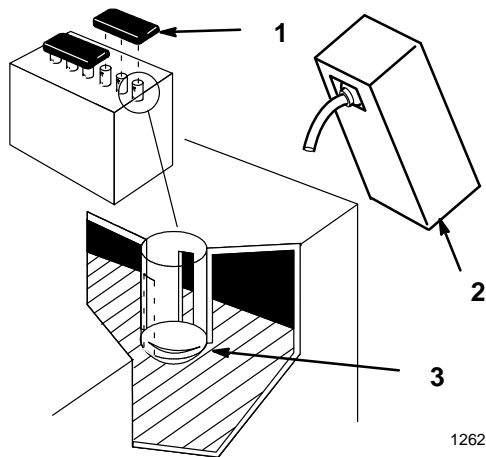

Figure 1
2. Remove filler caps from the battery. Slowly pour electrolyte into each cell until the electrolyte level is up to the lower part of the tube (Fig. 1).
5. Slowly pour electrolyte into each cell until the level is once again up to the "UPPER" line on the battery case (Fig. 1) and install covers.
6. Install the battery in the tractor and connect cables with (2) 1/4 x 3/4" bolts and (2) 1/4" plastic wing nuts: refer to the Operator's Manual, Installing the Battery.